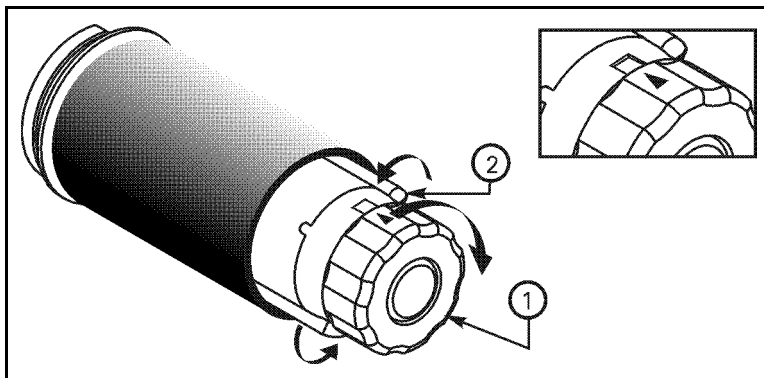

Figure 25
7. Before wrapping the ribbon around the take-up spindle, ensure that the arrow on the knob aligns with the indented notch (see Figure 25 inset).
Refer to Figure 25.
2. While holding the ribbon take-up spindle, turn the knob (1) clockwise until it stops. This causes the ribbon release bars to pivot down (2), easing the spindle's "grip" on the wound ribbon.
3. Slide the ribbon off of the ribbon take-up spindle. Once the spent ribbon has been removed, ensure that the arrow on the knob aligns with the indented notch in the ribbon take-up spindle (see Figure 25 inset).